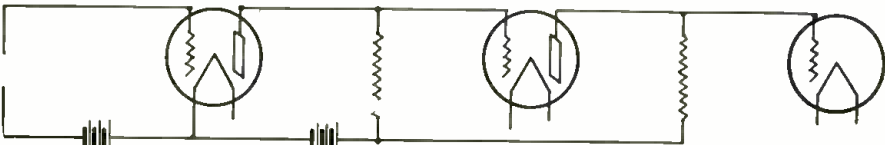

Fig. 3. Generalized Form of Multi-Tube Amplifier Circuit.
In a multi-stage amplifier of the usual sort, as indicated in generalized form in Fig. 3, the voltage input to the first tube is e_g and that to the second tube is the voltage across *Z*, as just figured. Consequently the gain or ratio of voltage in the second grid to that of the first grid is $\mu Z \div \sqrt{r_p^2 + Z^2}$ (4).